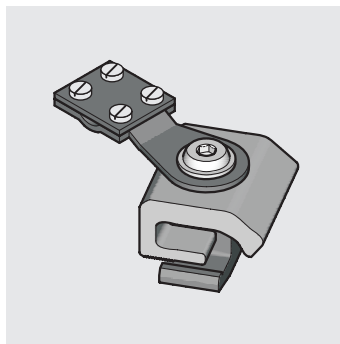

Fig. 3-44 Clamping plate with equipotential bonding terminal
1. Release the slotted screws on the equipotential bonding terminal (Fig 3-44).